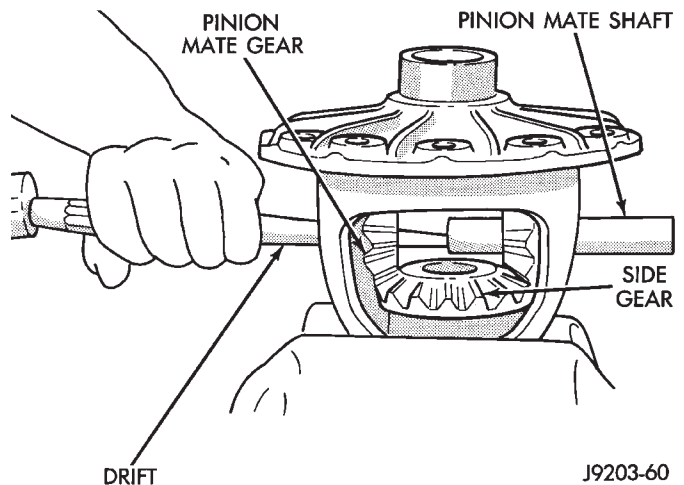

Fig. 36 Pinion Mate Shaft Removal
- (1) Remove roll-pin holding mate shaft in housing.
- (2) Remove pinion gear mate shaft (Fig. 36).